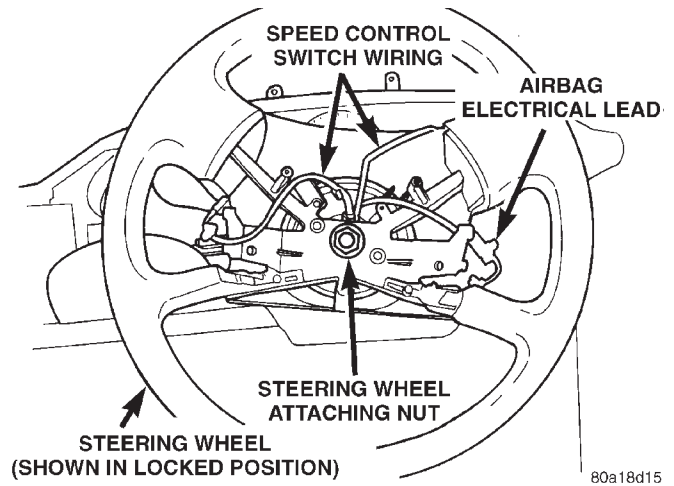
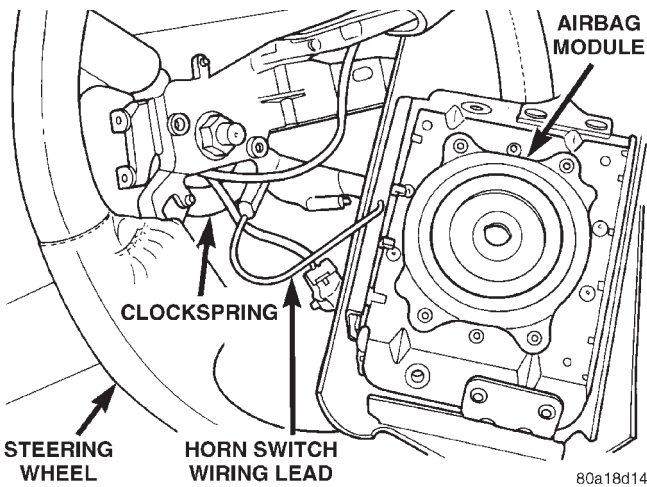

Fig. 13 Steering Wheel Attaching Nut
Fig. 12 Horn Switch Wiring Lead
(15) Remove the wiring lead for the horn switch in the airbag module (Fig. 12) from the wiring lead coming from the clockspring.
(16) Turn the lock cylinder to the **off** position and remove the key from the lock cylinder.
(17) Turn the steering wheel to the left 1/2 a turn (180°) (Fig. 13) until the steering column lock is engaged.
(18) Remove the steering wheel attaching nut (Fig. 13) from the steering column shaft.
(11) Feed clockspring wiring leads through hole in steering wheel (Fig. 13). Position steering wheel on shaft of steering column assembly, making sure to fit flats on hub of steering wheel with formations on inside of clockspring.
(12) Install steering wheel to steering column shaft retaining nut and tighten until steering wheel is fully installed on shaft. Tighten steering wheel retaining nut to a torque of 61 N·m (45 ft. lbs.).
(13) Turn the key cylinder to the unlock position, unlocking the steering column shaft.
(14) Correctly route the speed control switch wiring leads from the clockspring to the speed control switch openings in steering wheel.
(15) Connect the horn switch wiring lead from the clockspring to the airbag module horn switch wiring lead (Fig. 12)